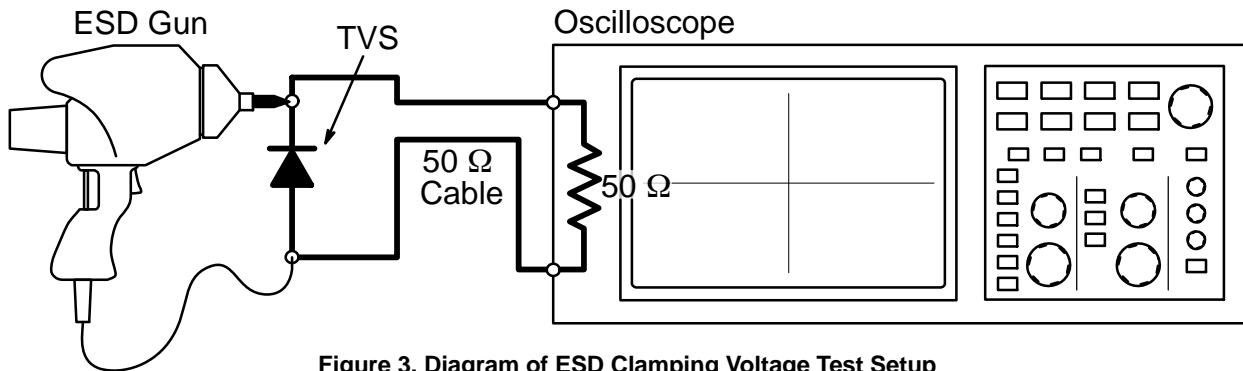

Figure 3. Diagram of ESD Clamping Voltage Test Setup
- For test procedure see Figures 3 and 4 and application note AND8307/D.